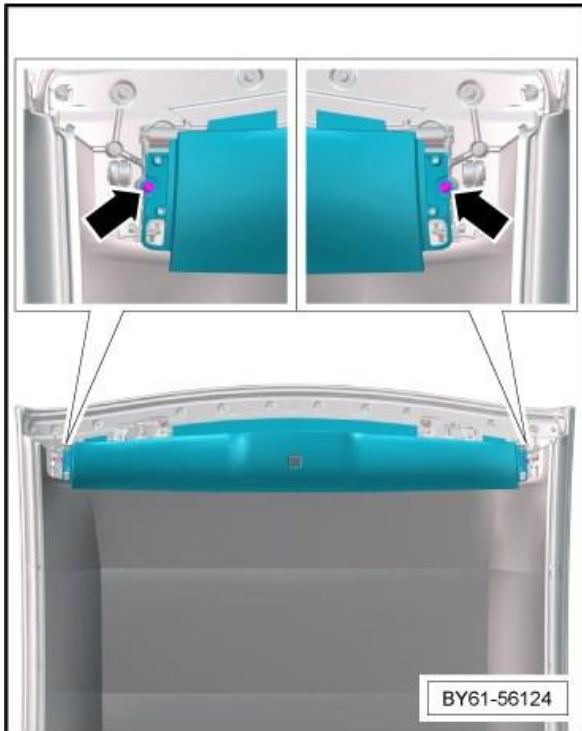

Figure 2
2) Referring to Figure 2 - Undo the 2 fixings (4 Nm) -arrowed-